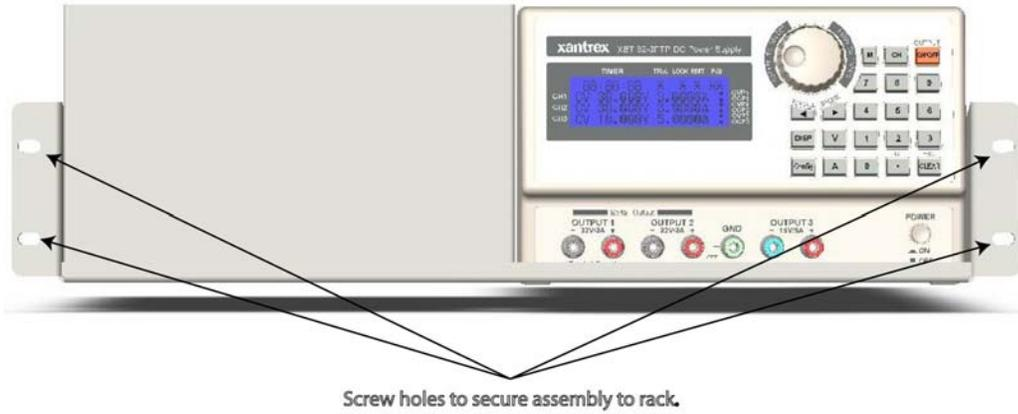

Figure 9. Screw Holes for Securing Assembly to Rack
10. Use screwdriver to secure filler panel to rackmount piece with three (3) M3.0 screws.
12. Align screw holes of left and right sides of rackmount piece (Figure 9) with corresponding screw holes of rack.